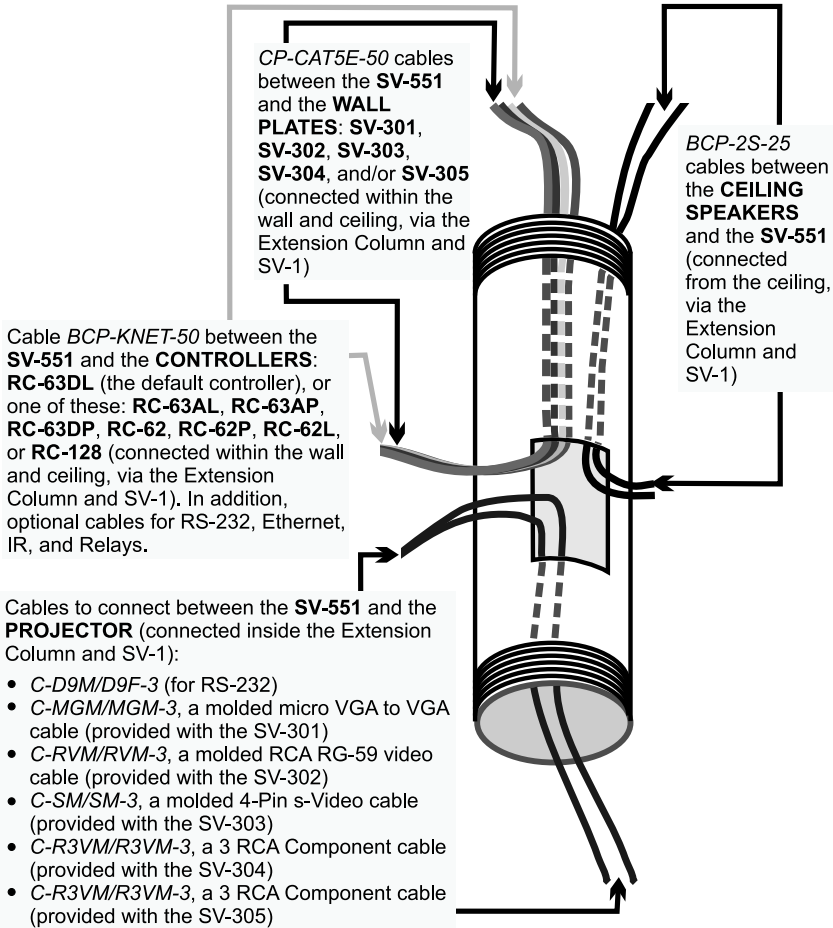

Figure 34: Connecting the Cables through the SV-CL Column
4. Pass all the required cables through the **SV-CL** Column¹, as Figure 34 illustrates: